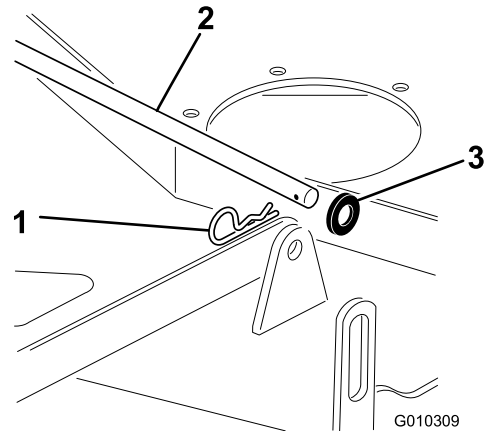

Figure 68
1. Remove the hair pin cotter and washer securing the long, link bar to the frame and deck; remove the link bar (Figure 68).
6. Attach the front support on the mower deck to the front deck hangers and secure them with a washer and hairpin cotter (Figure 68).